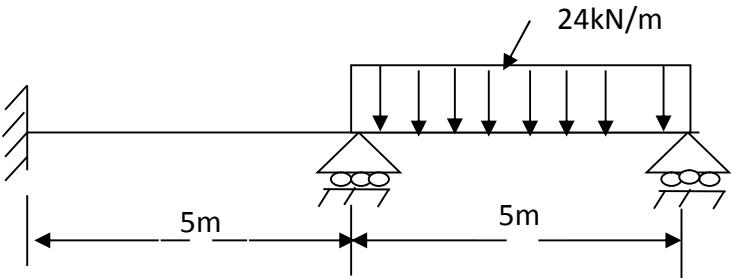

Figure 2
4. For the beam loaded as shown in Figure 2, determine; (i) the slope at the simple supports, (ii) Vertical deflection at the mid-point of the load. Take  $E = 200$  GPa,  $I = 4 \times 10^6$  m4.